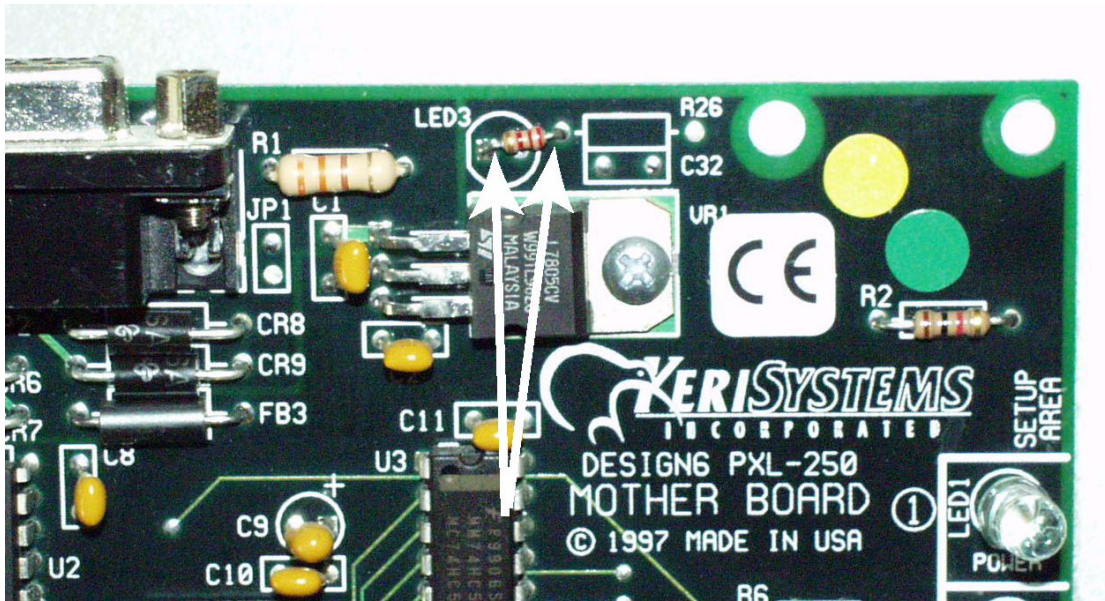

Figure 2: Location of the 2.2K Resistor on a Through Hole PXL-250
4. Locate the 2.2K resistor in the top, right corner of the front side of the PCB (see Figure 2).